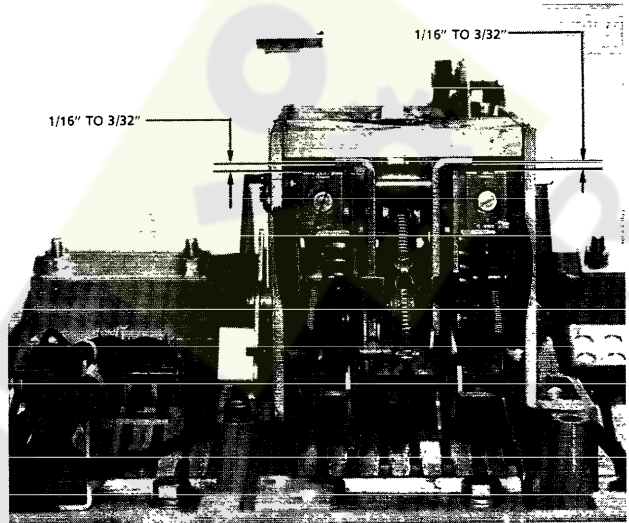

FIGURE 10
3. Position the shunt trip as shown in Fig. 10, then install the mounting screws through the slots shown in Fig. 9 into the tapped holes in the shunt trip but do not tighten.
7. Remove the left hex bolt in the appropriate outer pole, discard the plain washer, and use the bolt and lockwasher to install the auxiliary switch as shown in Fig. 10. Hold the switch assembly straight while tightening the bolt to 30 inch pounds torque.